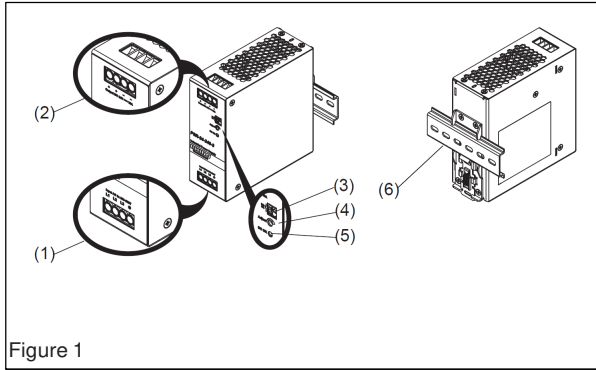

Figure 1
2. Device description (Fig. 1)
4.1. Input connection (Fig. 1, Fig. 6)
Use L, N and PE connections of input terminal connector (see Fig. 1 (1)) to establish the 3 x 380-500 VAC connection. The unit is protected with internal fuse (not replaceable) at L1, L2 and L3 pins, which have been tested and approved on 20A (UL) and 16A (IEC) branch circuits without additional protection device.
4.2. Output Connection (Fig. 1 (2))
Use the "+" and "-" screw connections to establish the 24 VDC connection. The output provides 24 VDC. The output voltage can be adjusted from 24 to 28 VDC on the potentiometer. The green LED DC OK displays correct function of the output (Fig. 1 (5)). The device has a short circuit and overload protection and an over voltage protection limited to < 35 VDC.